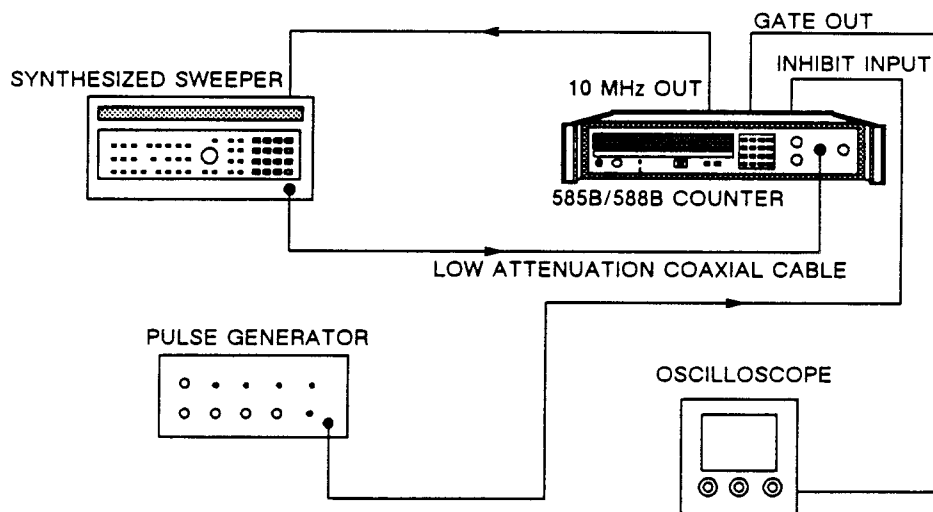

Figure 8-13. Band 2 Averaging Error Test Setup.
1. Connect equipment as shown in Figure 8-13 and turn equipment on.
8. Take 10 measurements by pushing TRIG function key 10 times.